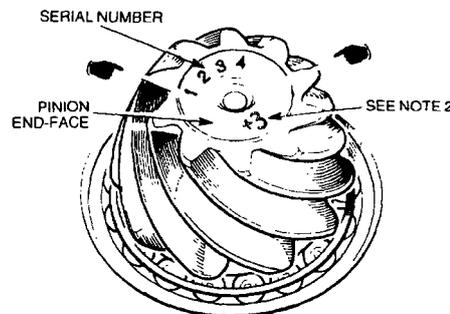

Figure 245 Pinion Shaft Markings
- c. Check that the serial number etched on the pinion end face matches the serial number etched on the crown wheel (Figure 245). If the serial numbers do not match, discard the both the crown wheel and pinion and replace them with a new matched pair.
- y. Before adjusting the shim thickness, examine the pinion shaft end-face and note the etched figure opposite the serial number (Figure 245). If it has a plus (+) figure, subtract that amount in thousandths of an inch from the shim thickness figure obtained in sub-para t and v. If it has a minus (-) figure, add that amount to the shim thickness figure. If the figure is zero then no correction is required.